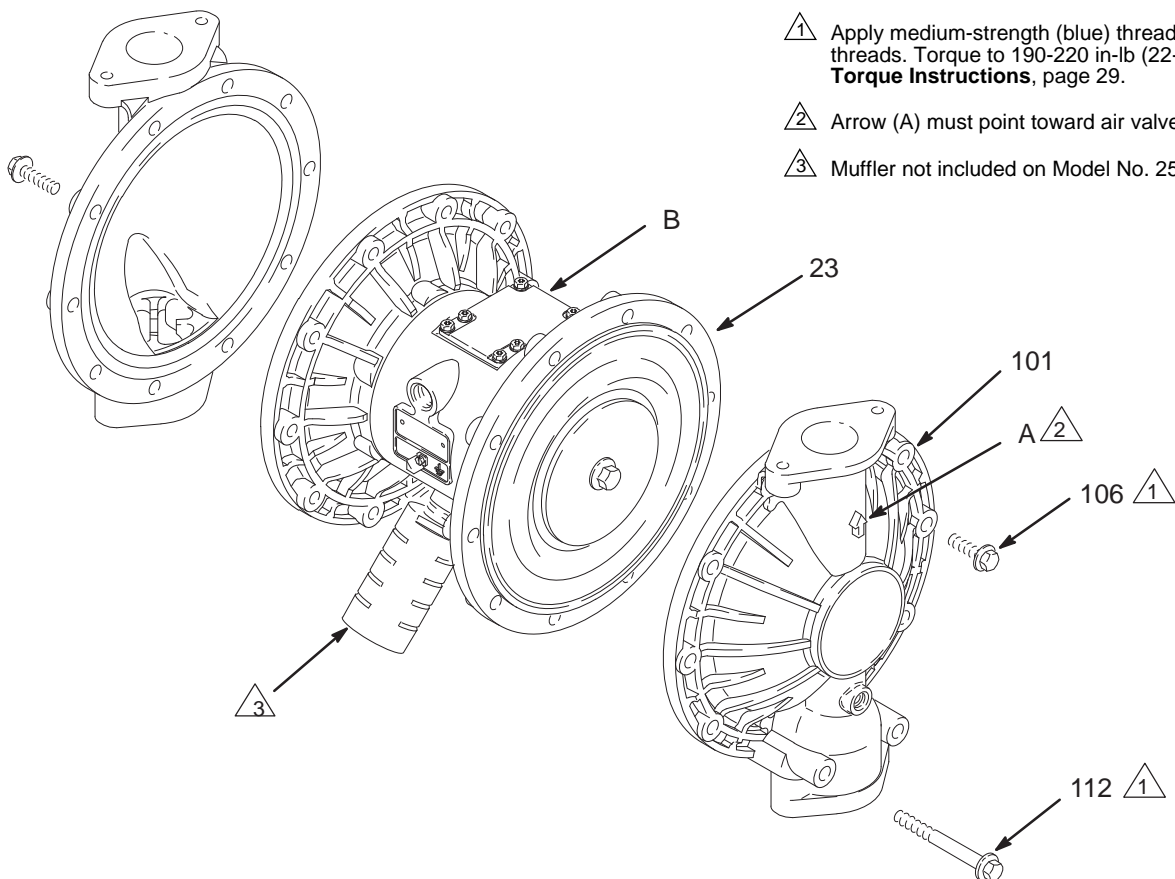
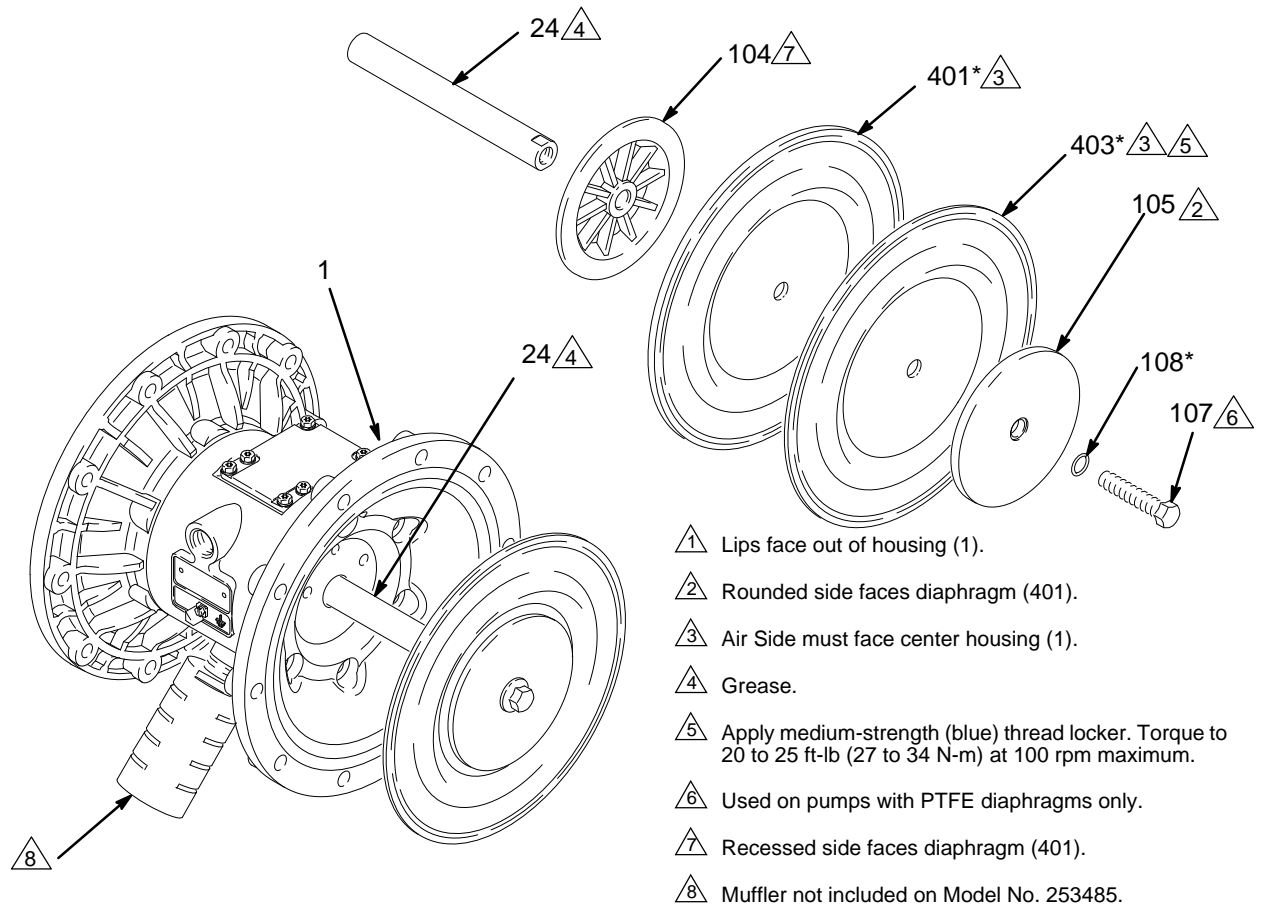

FIG. 11
FIG. 12
3. Using a 13 mm socket wrench, remove the screws (106 and 112) holding the fluid covers (101) to the air covers (23). Pull the fluid covers (101) off the pump. See FIG. 11.
- Loosen but do not remove the diaphragm shaft bolts (107), using a 15 mm socket wrench (1 in. on stainless steel models) on both bolts. *NOTE: This step does not apply to pumps with overmolded diaphragms.*
- Unscrew one bolt from the diaphragm shaft (24) and remove the o-ring (108), fluid side diaphragm plate (105), PTFE diaphragm (403, *used on PTFE models only*), diaphragm (401), and air side diaphragm plate (104). See FIG. 12.
- Install the shaft u-cup packings (402*) so the lips face **out** of the housing (1). Lubricate the packings. See FIG. 12.
- Install the diaphragm assembly on one end of the shaft (24) as follows. *For pumps with overmolded diaphragms, go directly to step g.*
- Install the o-ring (108*) on the shaft bolt (107).
- Install the fluid side diaphragm plate (105) on the bolt so the rounded side faces in, toward the diaphragm (401).
- On PTFE models only*, install the PTFE diaphragm (403*). Make certain the side marked AIR SIDE faces the center housing (1).
- Install the diaphragm (401*) on the bolt. Make certain the side marked AIR SIDE faces the center housing (1).
- Install the air side diaphragm plate (104) so the recessed side faces the diaphragm (401).
- Apply medium-strength (blue) thread locker to the bolt (107) threads. Screw the bolt (107) into the shaft (24) hand tight.
- For overmolded diaphragms:* Assemble the air side plate (104) onto the diaphragm (403). The wide, radiused side of the plate must face the diaphragm. Apply medium-strength (blue) thread locker to the threads of the diaphragm assembly. Screw the assembly into the shaft (24) hand tight.
- Grease the length and ends of the diaphragm shaft (24), and slide it through the housing (1).
- Hold one shaft bolt (107) with a wrench and torque the other bolt to 20-25 ft-lb (27-34 N•m) at 100 rpm maximum. *NOTE: This step does not apply to pumps with overmolded diaphragms.*
- Align the fluid covers (101) and the center housing (1) so the arrows (A) on the covers face the same direction as the air valve (B). Apply medium-strength (blue) thread locker to the threads of screws (106) and (112), and secure the covers with the screws handtight. Install the longer screws (112) in the bottom holes of the covers. See Fig. 11. Using a 13 mm socket wrench, torque the screws oppositely and evenly to 190-220 in-lb (22-25 N•m). See **Torque Instructions**, page 29.
out of the housing. Inspect the packings. See FIG. 12.